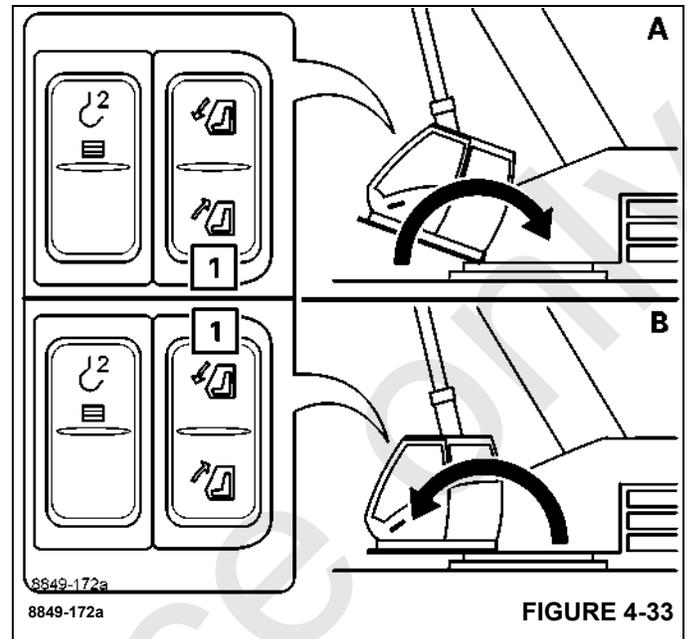

FIGURE 4-33
#### (A) – Raise the Cab (See Figure 4-33)
- Push the button (1) down.
#### (B) – Lower the Cab (See Figure 4-33)
- Push the button (1) up.